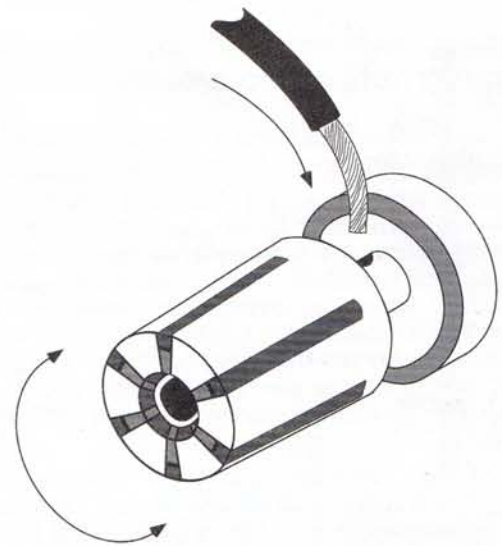

Figure 8. Bare Wire Connection
- 2) Unscrew the binding post speaker terminals and insert the wire (see Figure 8). Tighten the connection down on the wire.